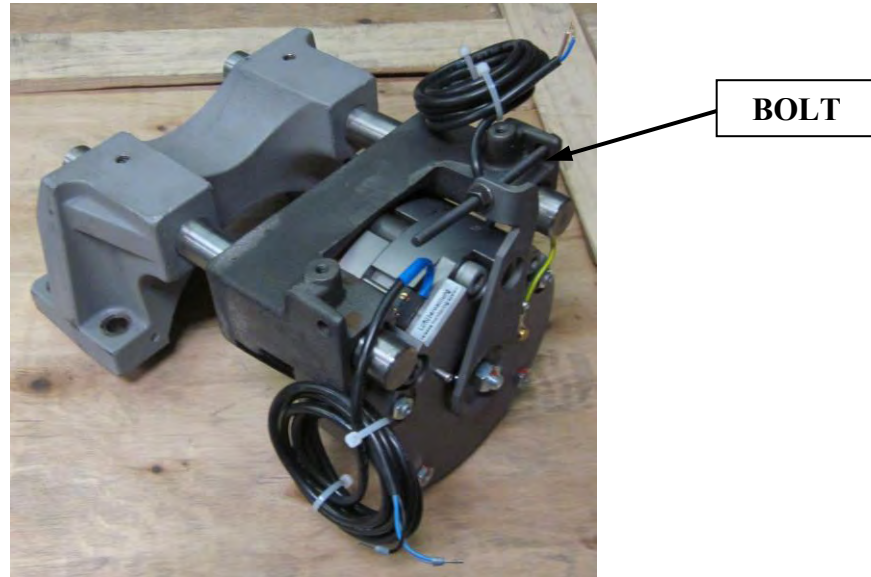

Figure 6
- Slide brake onto guide rods. Refer to Figure 6.